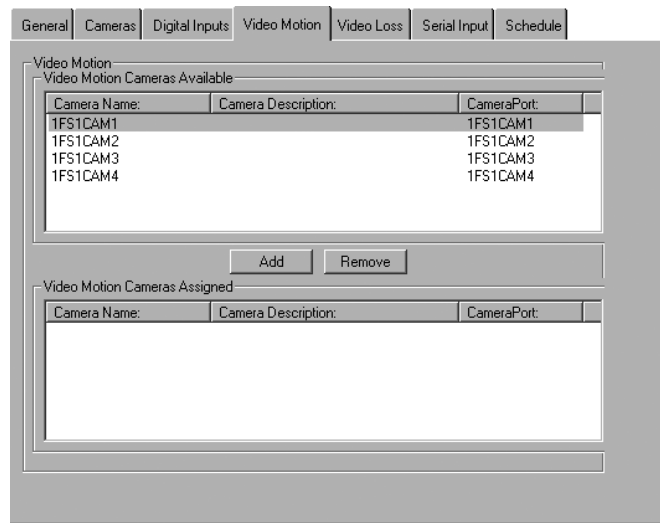

Figure 26. Video Motion Tab for Triggering Cameras in Zone
- **Video Motion:** Selects cameras which, when they detect motion, cause the rest of the zone's cameras to begin recording (refer to Figure 26). Refer to *Motion* on page 18 for information about zone recording based on motion.